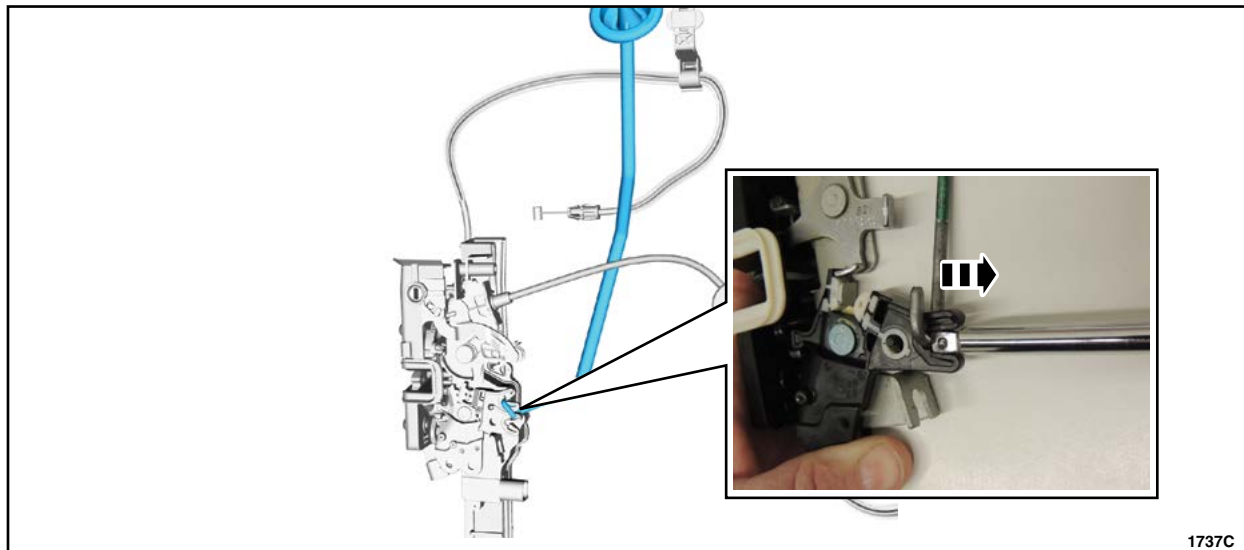

FIGURE 10
4. Remove the lock rod assemblies. See Figure 10.